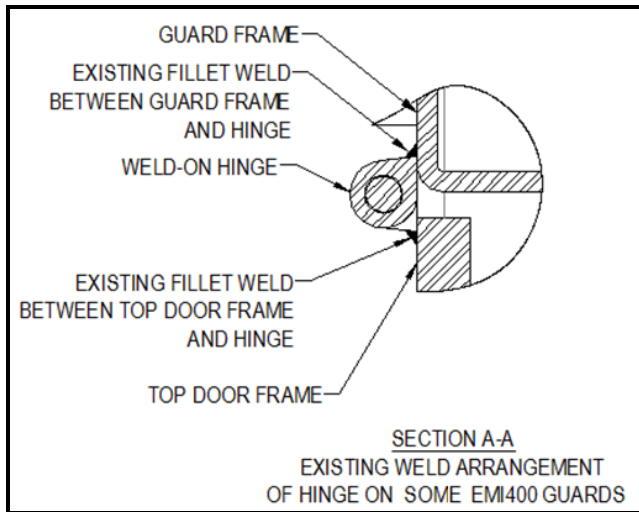
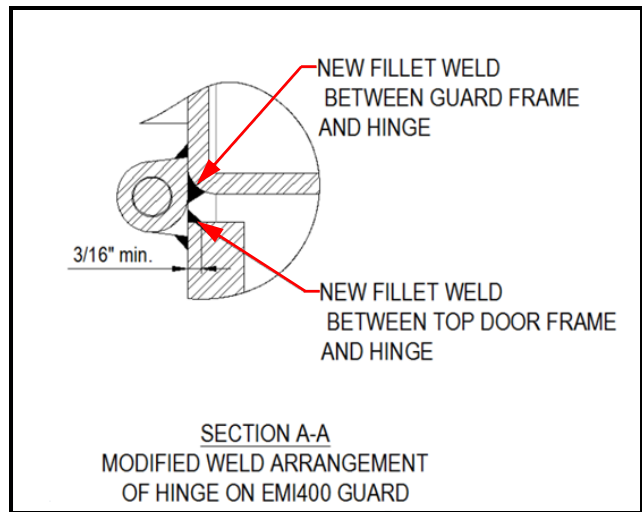

Figure 3: Hinge welded on one side
Figure 4: Hinge welded on both sides
TESCO recommends to visually inspect all hinges on all guards to ensure that the welds are present on both sides of the hinges. Any guards where the hinge is welded on only one side (Figure 3) must be re-welded so that both sides of the hinge are welded (i.e., for the top door, between the guard frame and hinge and between the top door frame and hinge), see Figure 4.
4. Use E7018 electrode for welding. The fillet weld size should be a minimum of 3/16" (Figure 4).